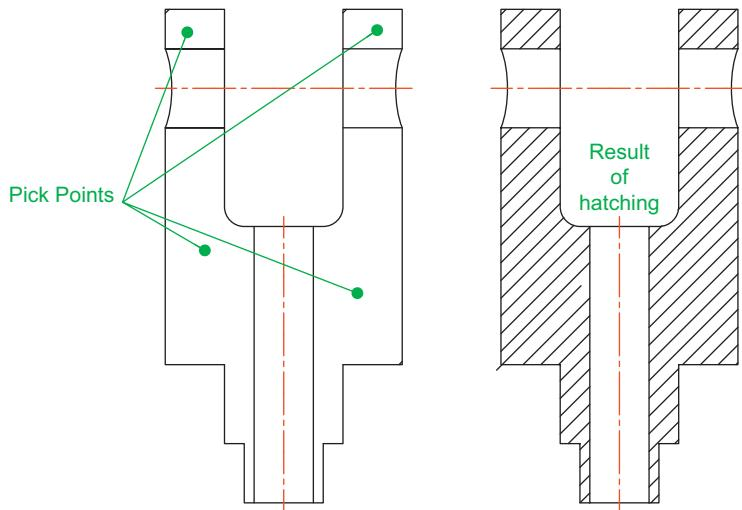

Fig. 7.14 The result of hatching
4. In the front view *pick* points as shown in the left-hand drawing of Fig. 7.14. The dialog reappears. *Click* the **Preview** button of the dialog and, in the sectional view which reappears, check whether the hatching is satisfactory. In this example it may well be that the **Scale** figure in the dialog needs to be *entered* as **2** in place of the default **1**. Press the **Esc** key of the keyboard and the dialog returns. Change the figure and **Preview** again. If satisfied *right-click*.